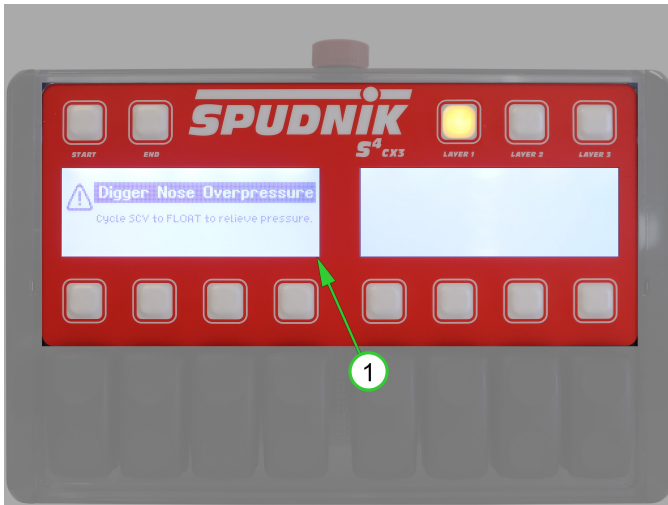

Figure 39
When an operational failure is detected, the applicable alarm alerts. Visible alarms display on the (1) left screen. Audible alarms produce a warning tone but do not display visibly. The alarm resets once the operational failure is resolved. (See Figure 39)